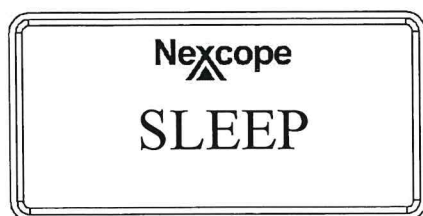

Fig.5
1. Click Knob : enter the standby state and “SLEEP” appears on the screen (Fig.5). Click again to eliminate the state, the “SLEEP” on the screen disappears and the normal working state is displayed;